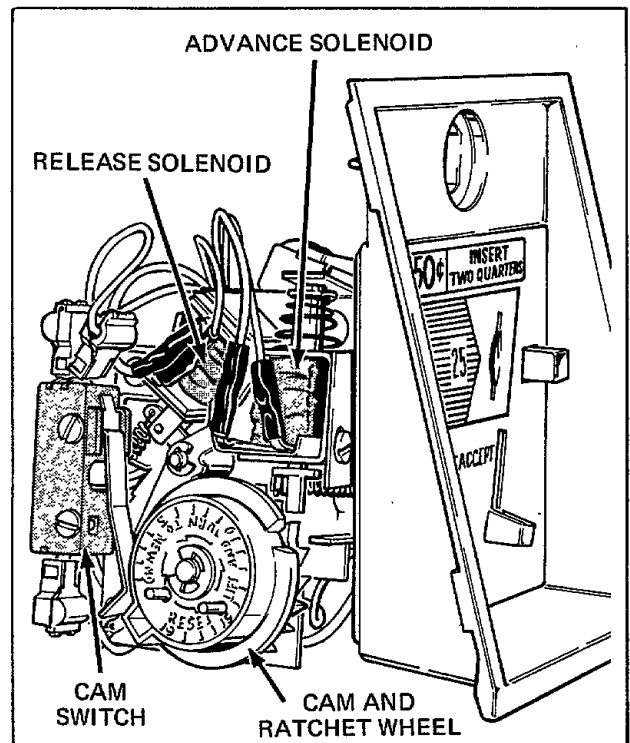

Figure 3
- (2) Install cam switch, *Figure 3*, so it clicks “on” about 3/4 the distance up switch cam rise.
- (3) Install advance solenoid, *Figure 3*, so plunger actuates the ratchet wheel enough for the pawl to latch it. Make sure ratchet wheel teeth can rotate clear of plunger boot after solenoid plunger has returned.
- (4) Install release solenoid, *Figure 3*, so when fully actuated, the solenoid will pivot the pawl enough to allow the ratchet wheel to rotate freely.